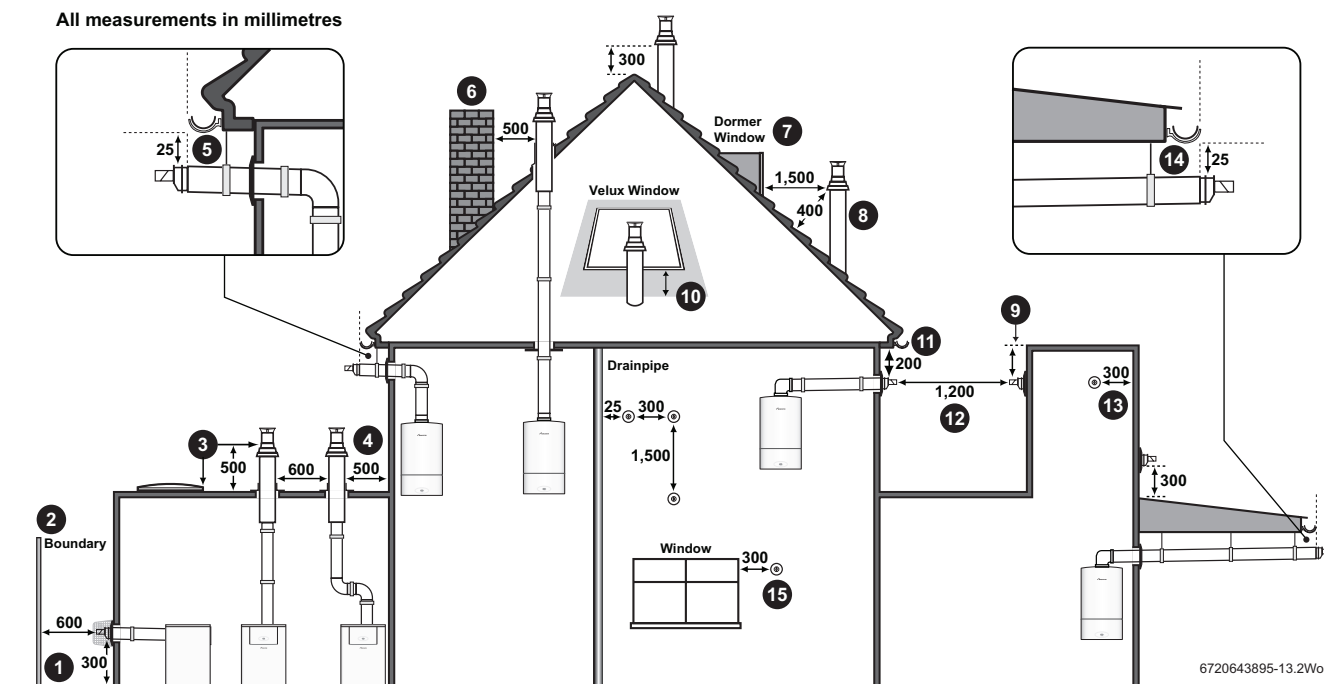

Fig. 17 Flue terminal positions
- ▶ Refer to figure 17 for all concentric flue terminal positions unless the flue position is specified on the figure above "Plume terminal positions".